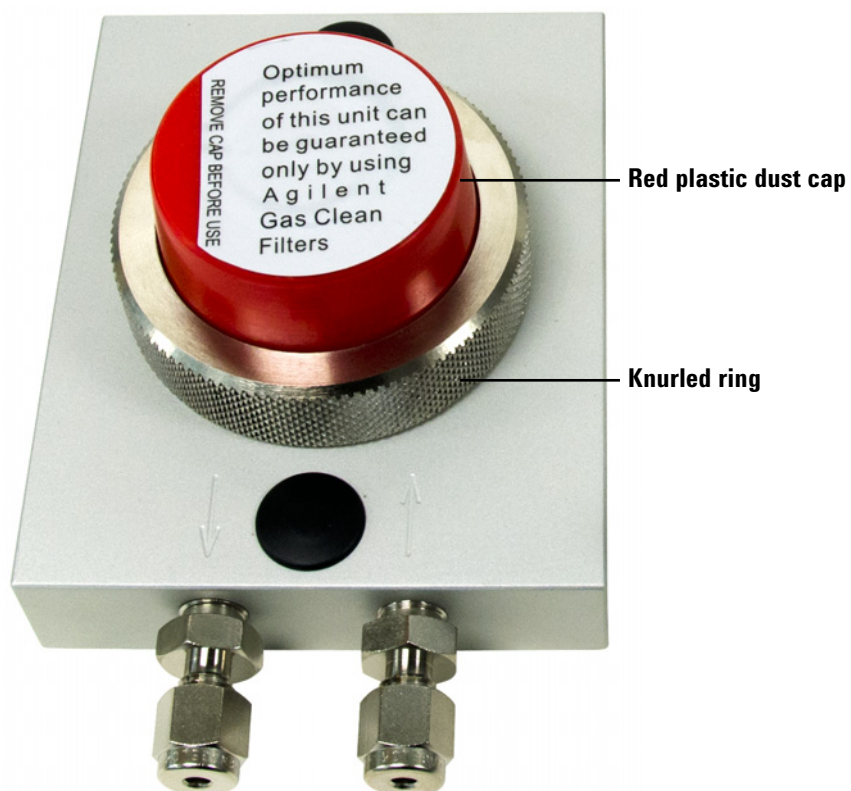

Figure 18 Remove the red plastic dust cap
- 1 Unscrew the knurled ring and remove the red plastic dust cap from the top of the connecting unit (Figure 18).